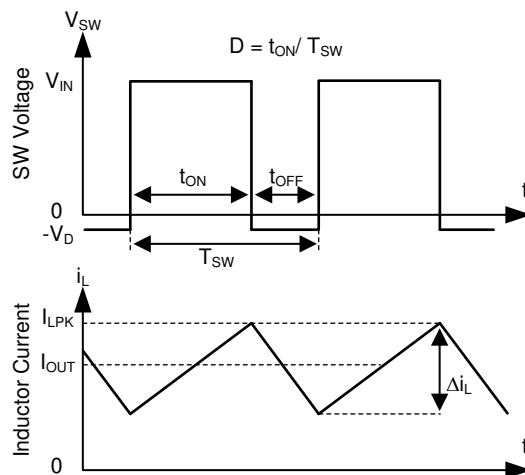

Figure 7-1. SW Node and Inductor Current Waveforms in Continuous Conduction Mode (CCM)
The following operating description of the LMR23625 refers to Section 7.2 and to the waveforms in Figure 7-1. The LMR23625 device is a step-down synchronous buck regulator with integrated high-side (HS) and low-side (LS) switches (synchronous rectifier). The device supplies a regulated output voltage by turning on the HS and